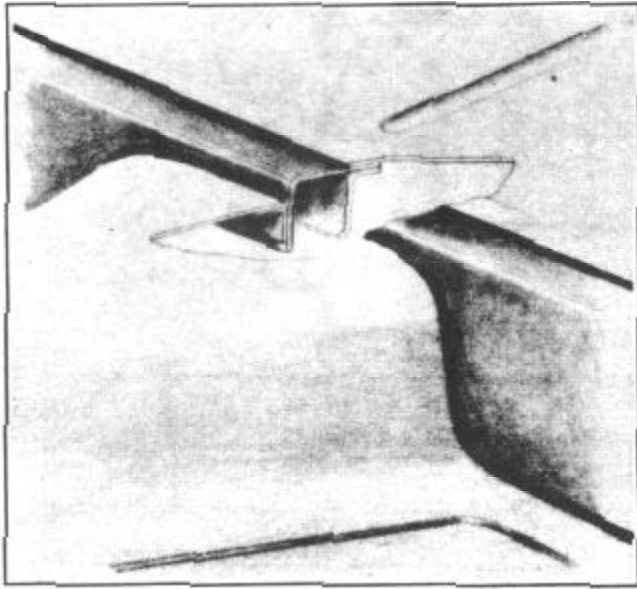

FIGURE 130
Circle (C) is shown in Figure 130. This is a cross section of the seat riser panel and floor tunnel. Use body sealer at joint of rear seat under panel (seat tray) and vertical riser panel and at the joint of the bottom of the vertical panel at lower floor (step-down) panel (rear floor panel) and to frame. Also along (step-down) panel to frame.